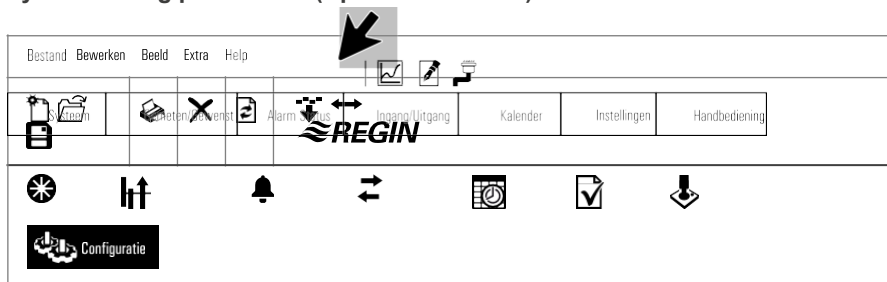

Figure 12
1. Click on 'synchronise' as shown in Figure 12 above. The 'synchronise parameters' menu will appear.